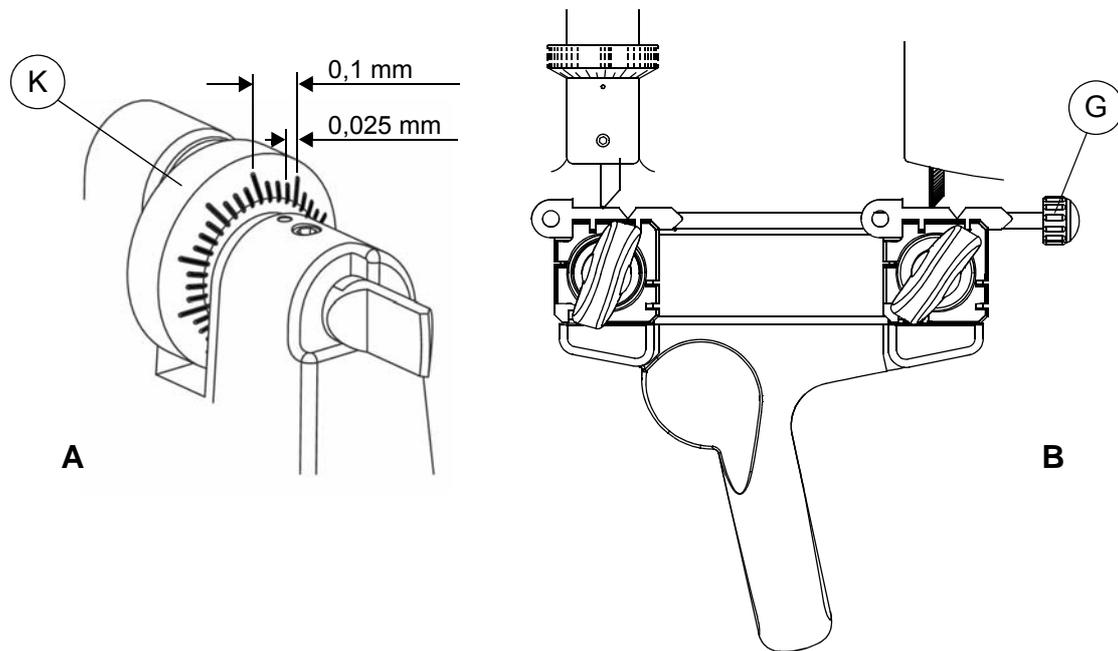

Fig. 11
- 2) Place the adjusting keys (provided) on the clamps (fig. 11-B).
- 3) Check that the adjusting keys adhere properly to the clamps (fig. 11-B).
- 4) Turn the gauge rod (G) towards the operator so that the gauges come into contact with the adjusting keys (fig. 11-B). Lower the gauge rod (G).
ATTENTION: each notch on the centesimal ring corresponds to 0,025 mm (fig. 11-A).